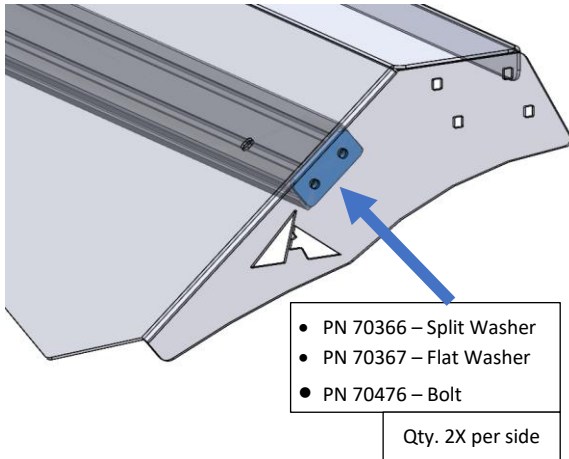

Figure 10: Air Dam Spacer Installation
7. Install air dam spacer between crossbar and air dam inside edge (Figure 10). Use 1/4"-20 hardware to fasten together. Repeat for both driver and passenger side.